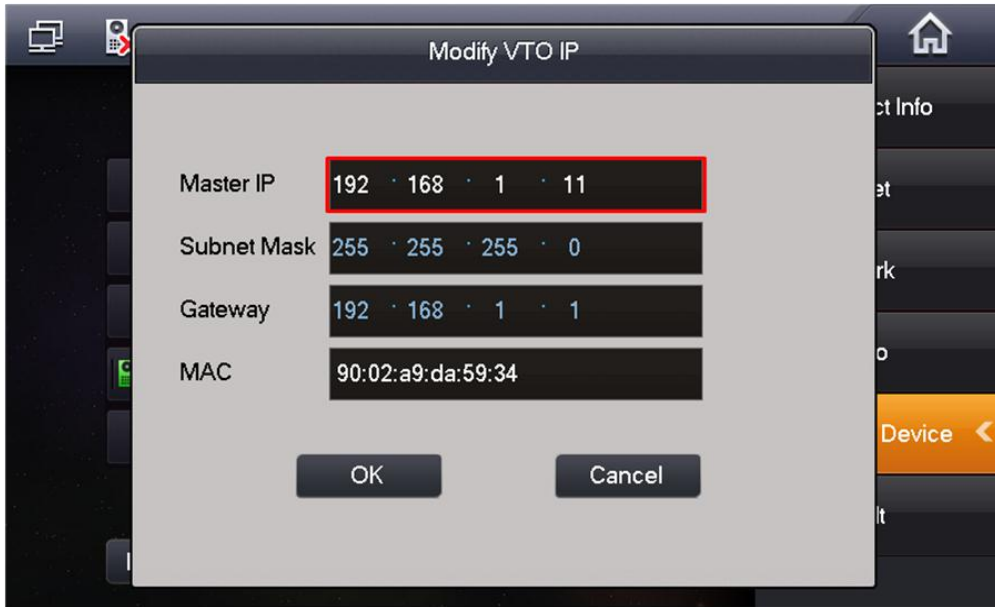

Figure 2-14
b) Change VTO IP address as 192.168.1.11. See Figure 2-14.